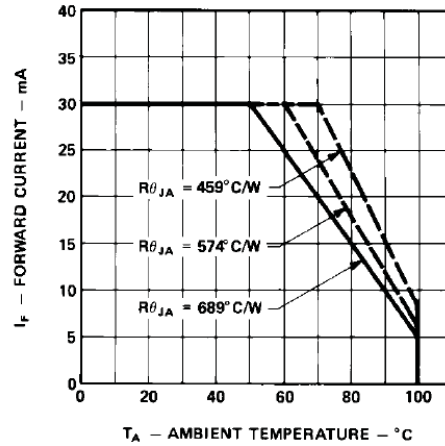

Figure 4. Maximum forward dc current vs. ambient temperature. Derating based on $T_{J Max.} = 110^{\circ}C$.
2. Derate linearly as shown in Figure 4.